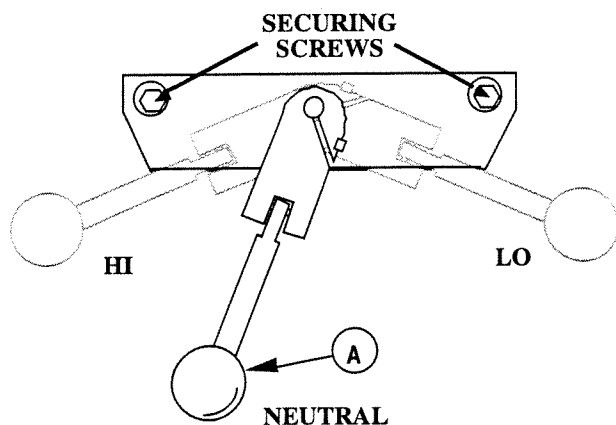

Figure 8-11. Hi-Neutral-Lo Lever
8.15 HI-NEUTRAL-LO LEVER**(Figure 8-11)**